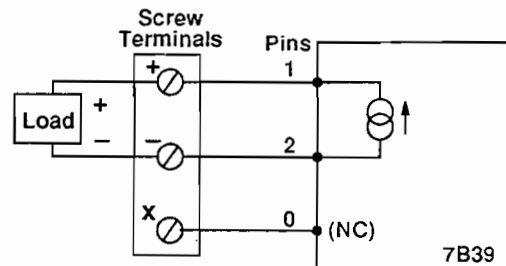

Figure 2-16. Process Current Output
- **Process Current Output** - An example of wiring a process current output signal to a 7B39 module is shown in Figure 2-16.